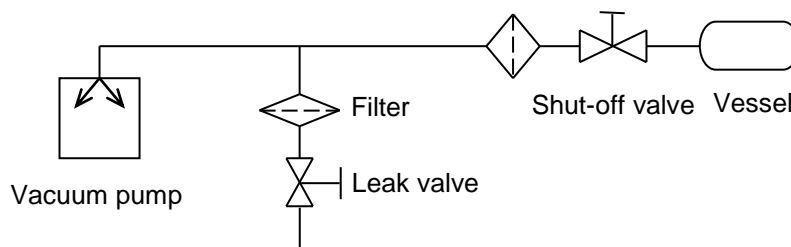

Fig.3.1 Example of Piping Used When Evacuating a Vessel
- 6) When evacuating a vessel, ensure that a shut-off valve is placed between the pump inlet pipe and the vessel (see Fig.3.1).
If it is necessary to maintain a vacuum, attach a shut-off valve or three-way valve between the pump and vessel. Refer to fig.3.1 for a piping example using a shut-off valve.